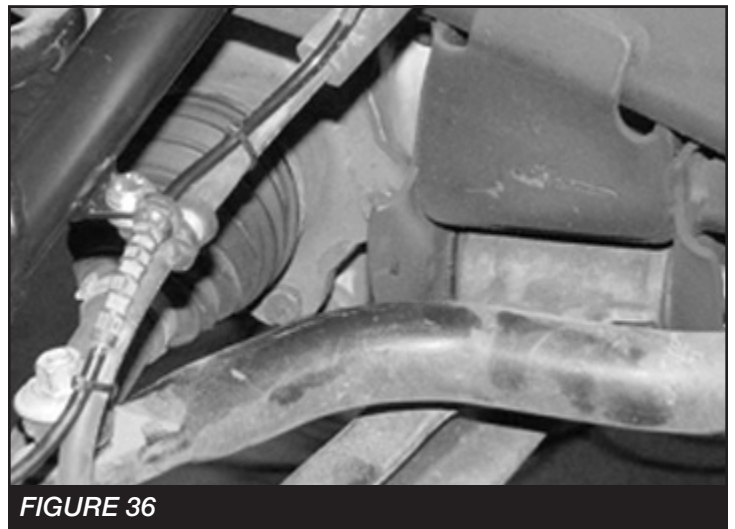

FIGURE 36
43. Reconnect the wheel speed sensor and zip tie to the brake line. **SEE FIGURE 36**